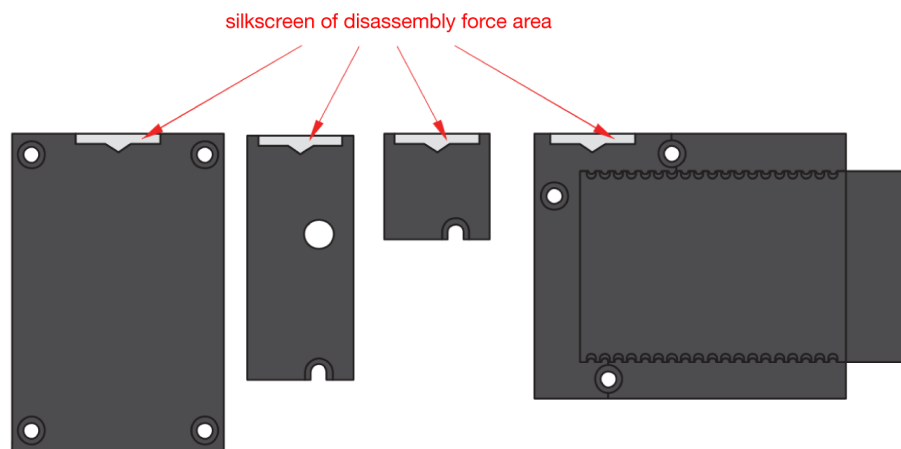
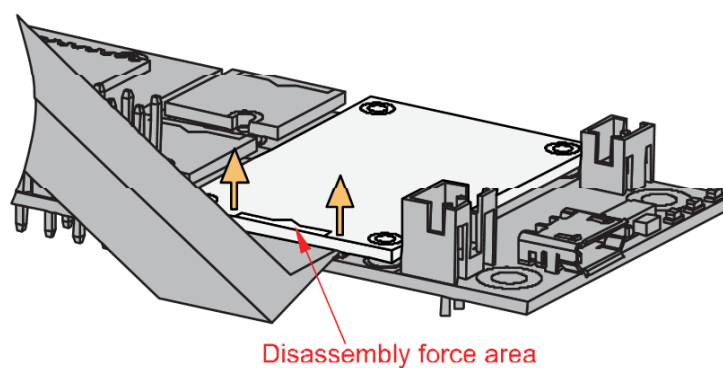

Figure 19: Detaching silkscreen on the WisBlock module
Figure 20: Applying even forces on the proper location of a WisBlock module to detach the module from the Base Board
2. Once the screws are removed, on the PCB of a WisBlock module, there is a silkscreen that shows the correct location where force can be applied. By applying even force under the marked area, the module can be detached from the Base Board. See **Figure 19** and **Figure 20**.